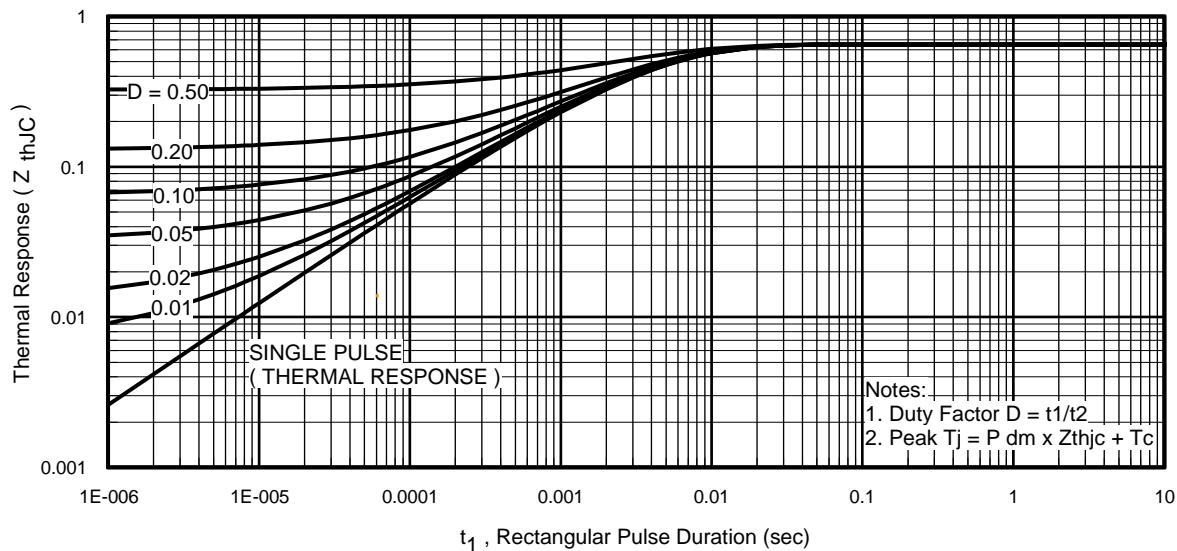
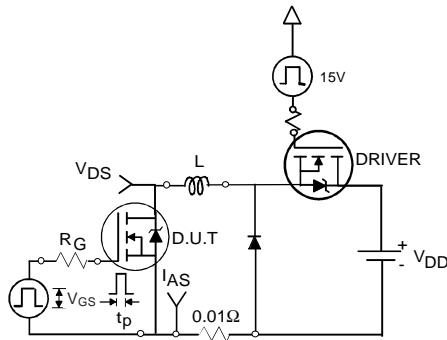

Fig 11. Maximum Effective Transient Thermal Impedance, Junction-to-Case
Fig 12a. Unclamped Inductive Test Circuit
- ① Repetitive rating; pulse width limited by max. junction temperature. (See fig. 11).
- ② Limited by $T_{J\text{max}}$, starting $T_J = 25^\circ\text{C}, L = 0.10\text{mH}$ ⑤ $R_G = 25\Omega, I_{AS} = 75\text{A}, V_{GS} = 10\text{V}$. Part not recommended for use above this value.
- ③ Pulse width $\leq 1.0\text{ms}$; duty cycle $\leq 2\%$.
- ④ $C_{\text{oss eff.}}$ is a fixed capacitance that gives the same charging time as C_{oss} while V_{DS} is rising from 0 to 80% V_{DSS} .
- ⑤ Limited by $T_{J\text{max}}$, see Fig.12a, 12b, 15, 16 for typical repetitive avalanche performance.
- ⑥ This value determined from sample failure population. 100% tested to this value in production.
3. Equation below based on circuit and waveforms shown in Figures 12a, 12b.
$Z_{thJC}(D, t_{av})$ = Transient thermal resistance, see figure 11)